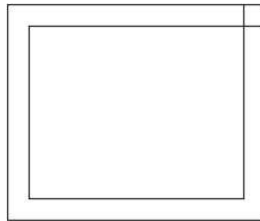

FIGURE 2.25: The box with three corners cleaned up
5. Fillet the lower-left and lower-right crossing lines to clean up those corners (see Figure 2.25) and press \downarrow .